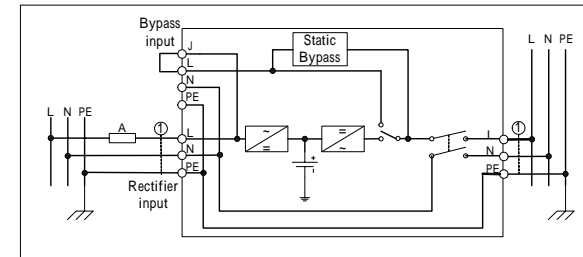
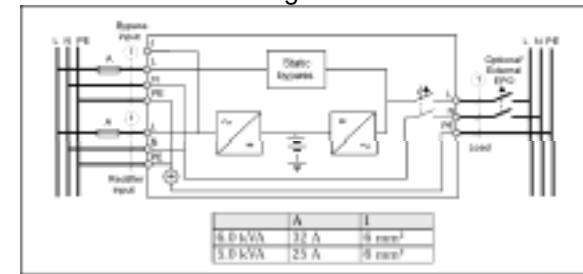

Fig. 2
Fig. 3.
- Ensure that the installation site has all electrical connections properly carried out. In addition, refer to figures 2 and 3 to check the fuse and cable dimensions.
- Refer to figure 2 for single cable input and figure 3 for dual cable input. Connect the UPS according to these diagrams. If installing dual cables, the interconnection jumper (b*) needs to be removed as in figure 2. Fuse and cable sizes are given in figure 3.
which when open will immediately shut down the logic circuit output of the UPS as in figure 2 and 3. Wiring the EPO signal is optional.
- **Caution!** Local safety requirements may require a separate external Emergency Power Off that opens output circuit breakers, and if so, use figures 2 and 3 for proper installation. Refer to local wiring rules.